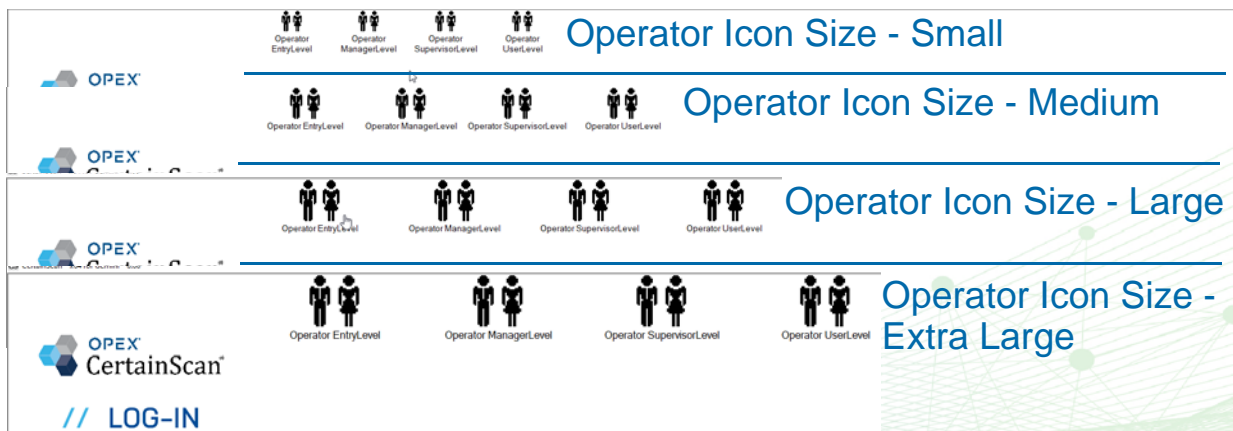
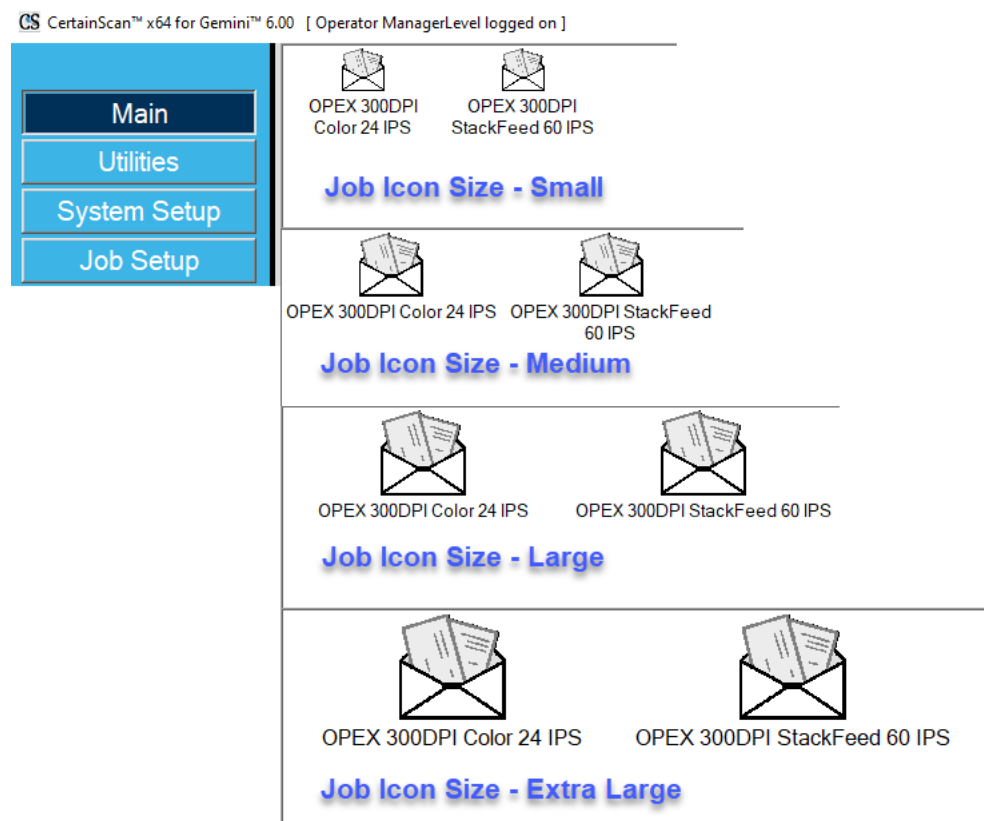

Figure 4-7: Operator icon size examples
Figure 4-8: Job icon size examples
- Based on the size selected, the Operator (Figure 4-7) and Job (Figure 4-8) icons will display accordingly.